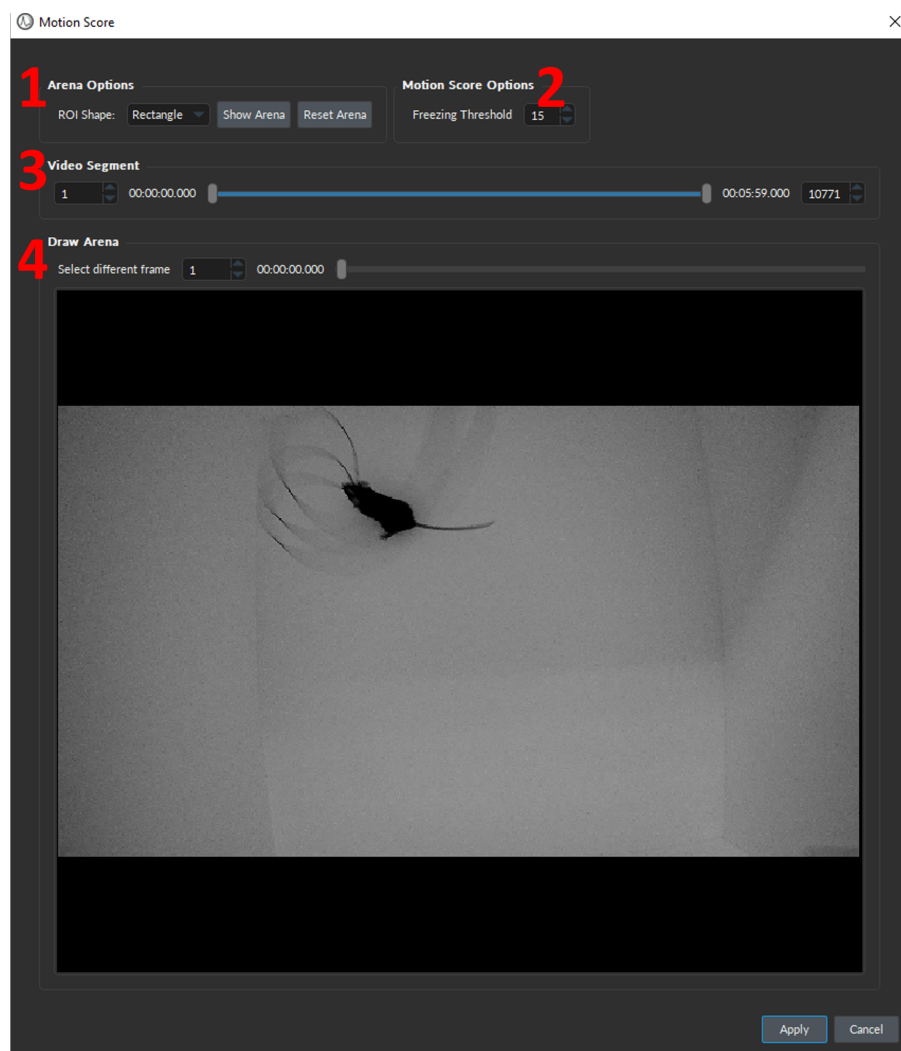

Figure 11.12: *Motion Score window*
1. The **Arena Options** (Fig. 11.12, 1) allows users to draw a shape on a still frame of the video to define the part of the image that corresponds to the animal arena. If no arena is defined, the entire image will be set as the arena. To define the arena area use the following parameters: